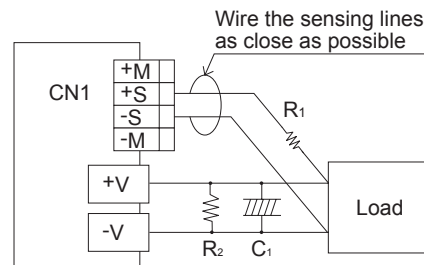

Fig.1.7 When using remote sensing function
- Please see Fig.1.7 if you use the remote sensing function.
- ① Wire carefully. When a connection of a load line becomes loose (due to such factors as loose screw), the load current flows to the sensing line and internal circuits of the power supply may be damaged.
- ② Use a sufficiently thick wire to connect between the power supply and the load and keep the line drop at 0.3V or below.
- ③ If the sensing line is long, connect C1 and R1.
- ④ Use a twisted pair wire or a shielded wire as the sensing line.
- ⑤ Do not draw the output current from +M, -M, +S or -S.
- ⑥ When the remote sensing function is used, the output voltage of the power supply may show an oscillating waveform or the output voltage may dramatically fluctuate because of an impedance of wiring and load conditions.